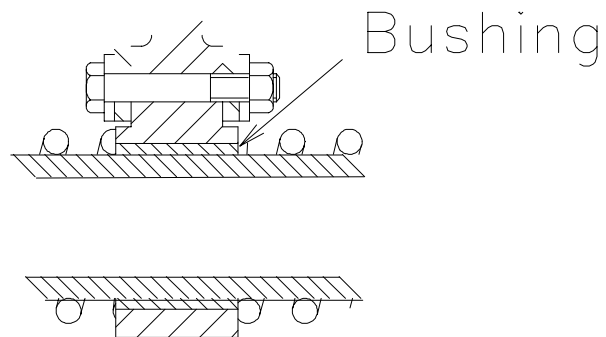

Figure 12
4.6.2 Refer to table 4 to determine if the reaction plate bushings (P/N 204114-06) or the pressure plate bushings (P/N 204114-05) require replacement. See figure 12.